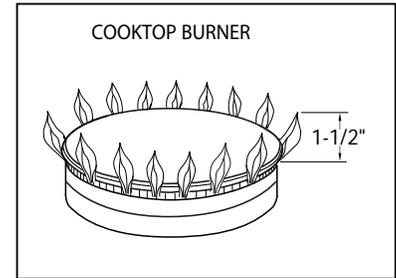

Fig. 18 Correct burner flame characteristics
*No air shutter adjustment is possible on the cooktop burners. Burner flames should be blue and stable with no yellow-tipping (some yellow-tipping is normal with LP gas), excessive noise, or lifting of flame from the burner (Fig. 18).*